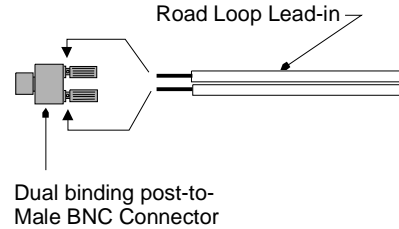

Figure 25 Post to Male BNC Connector
Step 12: Carefully review the installation to this point. If everything is correct, cut away the excess wire, trim and attach the other end of the Road Loop wire to the other half of the binding-post-to-BNC connector (Figure 25).